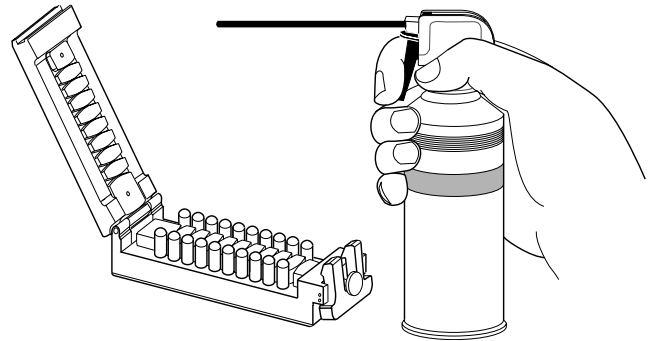

Figure 26
- Blow the channels out with compressed air (Figure 26).